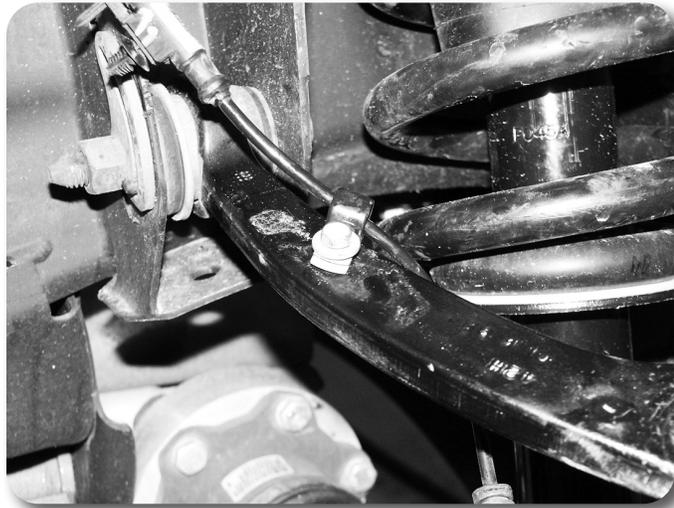

Figure 19
46. Attach the ABS line to the upper control arm with the original brake line mounting bolt and provided wire clamp Figure 19.